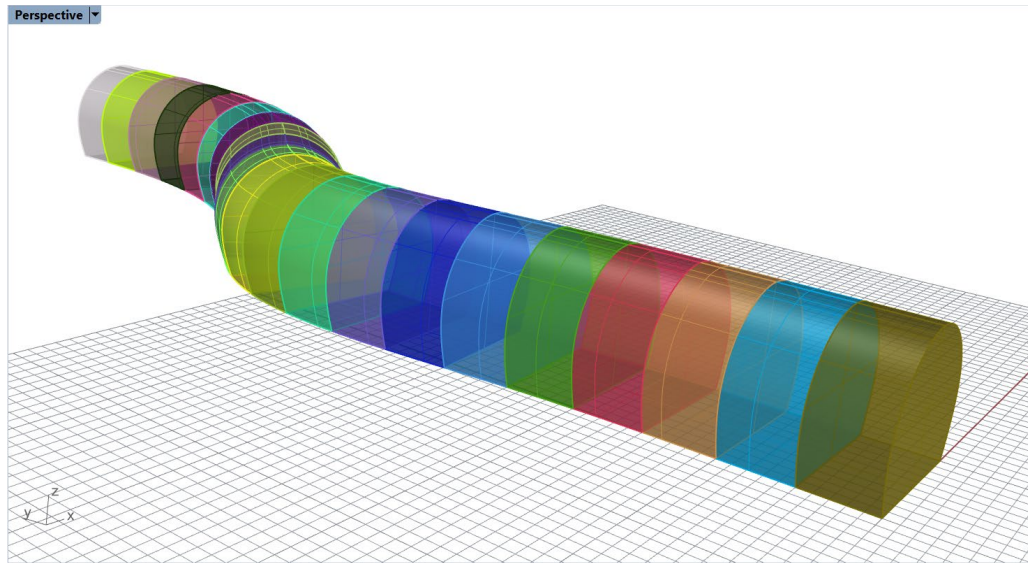

Figure 56: Watertight polysurfaces (solids) representing each excavation stage of the tunnel.
16. Colorize all stages with *Griddle*'s **\_ColorizeObjects** command (Figure 56).